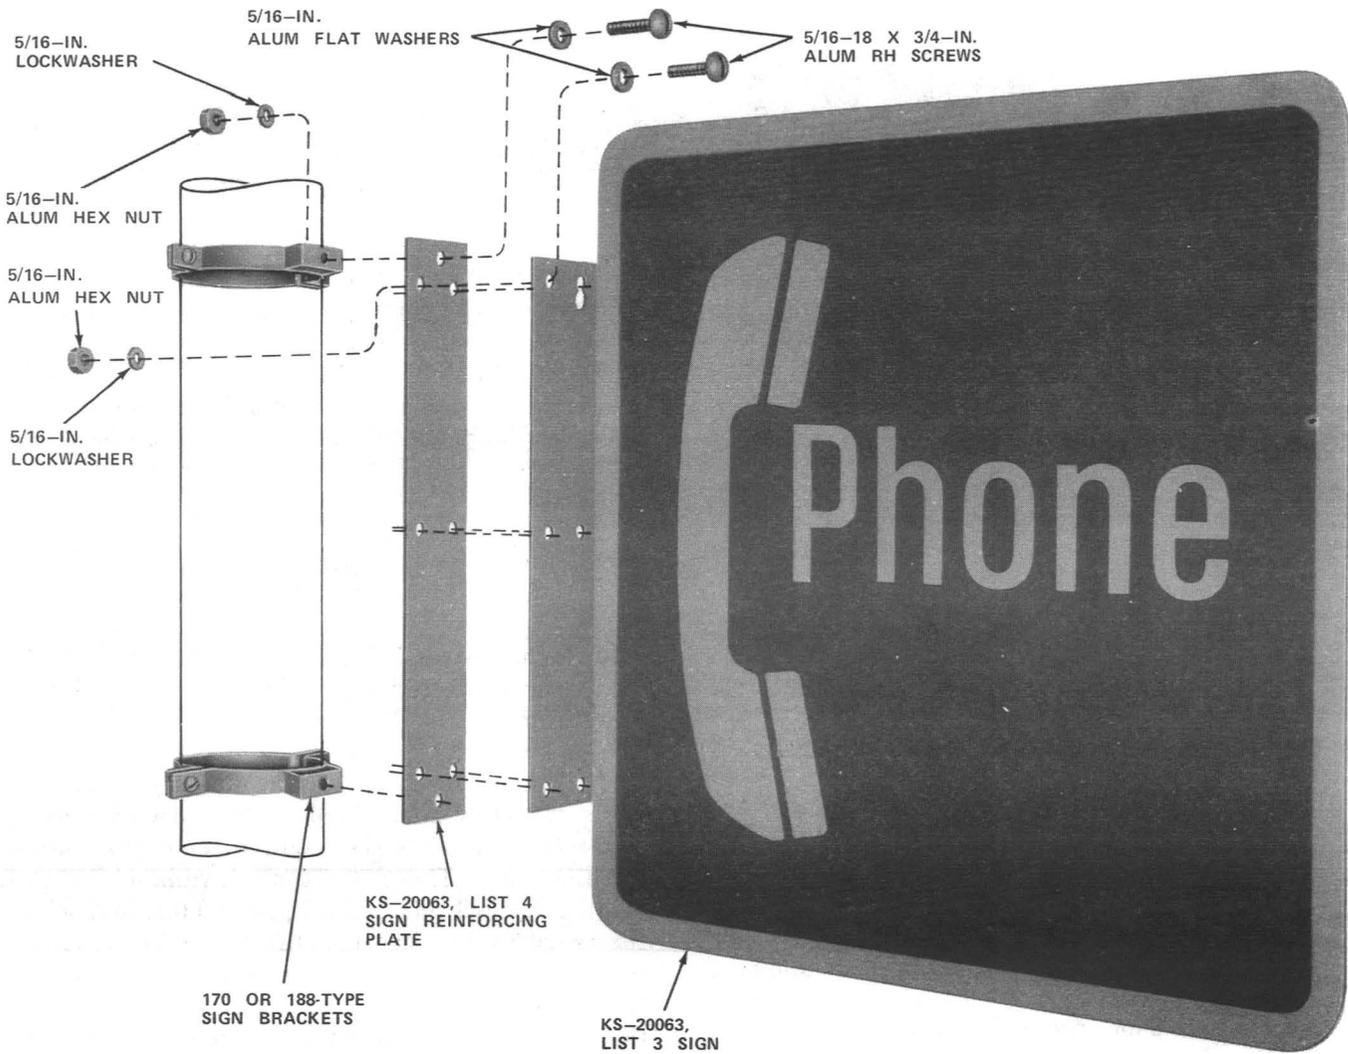

Fig. 27—Typical KS-20063 Sign, Pole Mounted
(b) Metal pole (Fig. 27):
- Refer to Fig. 27, 28 and Table B for complete description of brackets.
*KS-20063, Lists 3, 12, and 13 signs, pole mounted or corner mounted, require a KS-20063, List 4 reinforcing plate to prevent buckling (Fig. 27 and 29.)*